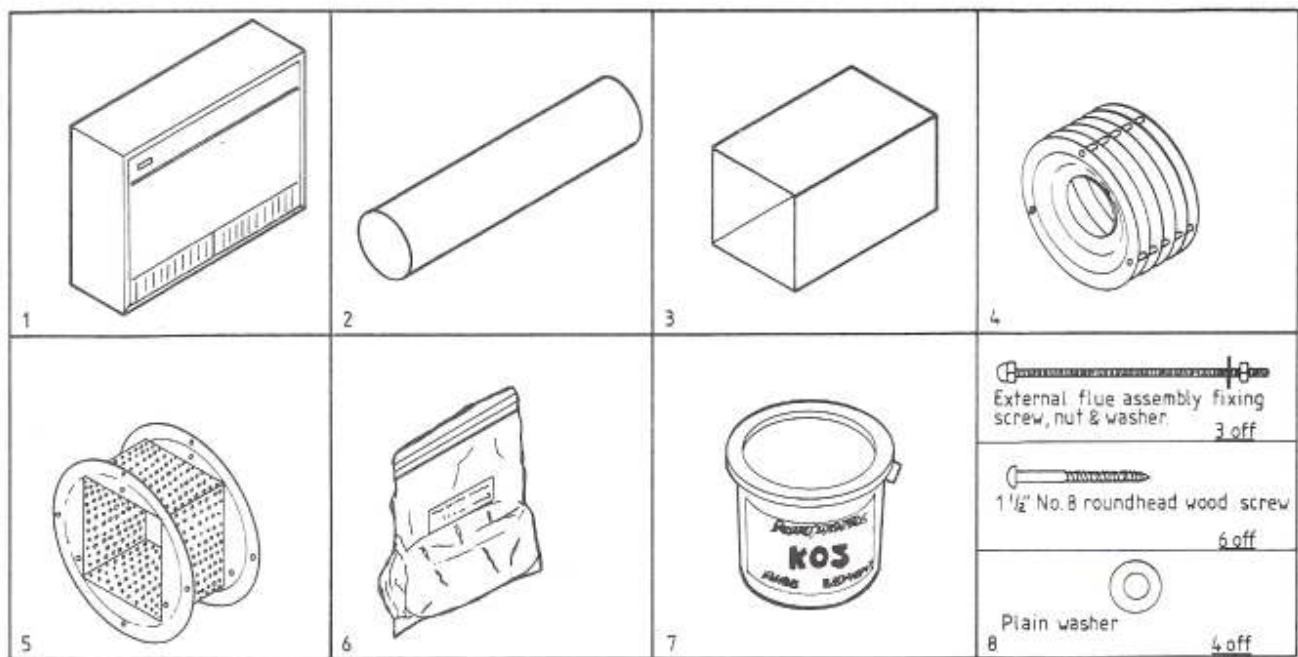

Fig. 1
Identify the various components from Fig. 1 and check to ensure that they are complete and undamaged.
- 7.9 From outside the building, insert the air duct (Fig. 1, item 3) through the hole and locate it on to the square spigot on the back of the heater. Push the air duct fully onto the spigot and make sure that it is held square and level.
- 7.12 From outside the building, insert the flue tube (Fig. 1, item 2) through the hole and push it firmly onto the round flue spigot on the back of the heater.
- 7.16 Spread fireclay cement (Fig. 1, item 7) approximately 3mm ($\frac{1}{8}$ in) thick by 13mm ($\frac{1}{2}$ in) wide, to the inside surface of one end of the air duct.